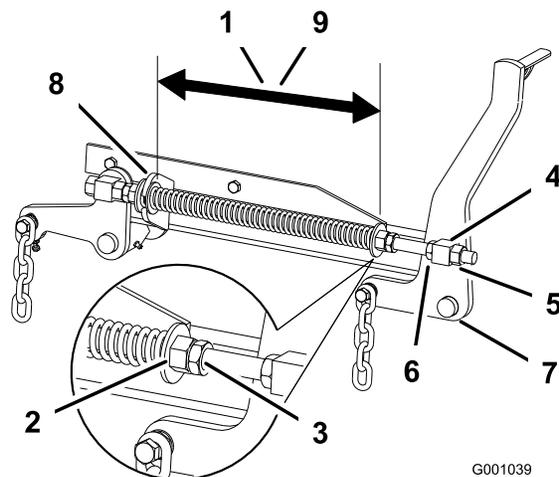

Figure 83
2. Check the distance between the two large washers, it needs to be 11-1/8 inches (28.2 cm) for 52 inch mower decks and 10-1/2 inches (26.7 cm) for 60 inch mower decks (Figure 83).
(Figure 83). Turning the nut clockwise will shorten the spring; counter-clockwise will lengthen the spring.
4. Lock the nut into position by tightening the spring jam nut (Figure 83).